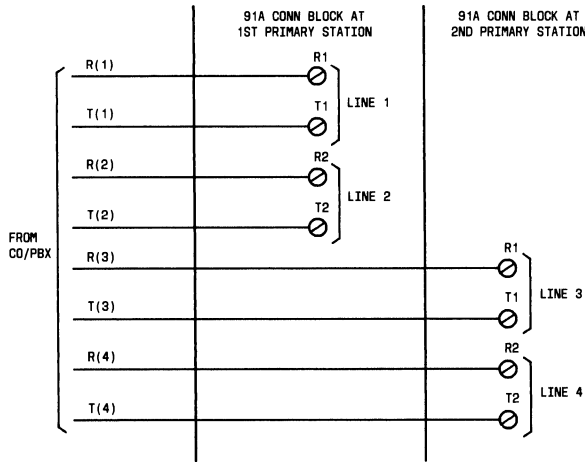

Fig. 47—CO/PBX Line Connections Using 91A (MD) Connecting Block
**3.68** Connections for common CO/PBX lines on 91A (MD) blocks are shown in Fig. 47.